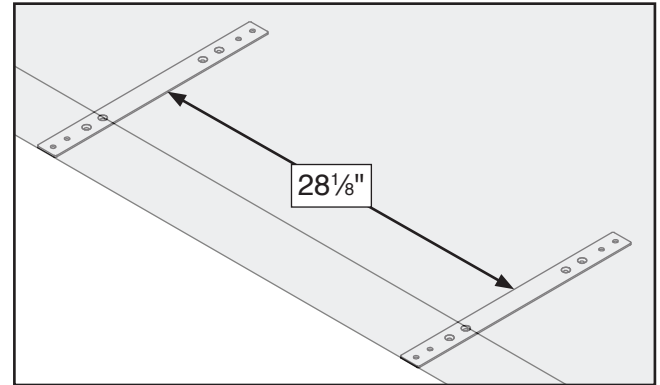

Figure 23. Undermounting brackets against underside of workbench (workbench greyed out for clarity).
1. Place (2) undermounting brackets against underside of workbench at intended mounting location, then use outer holes to mark (8) mounting locations. Brackets should have $28\frac{1}{8}"$ between their entire length, as shown in **Figure 23**.